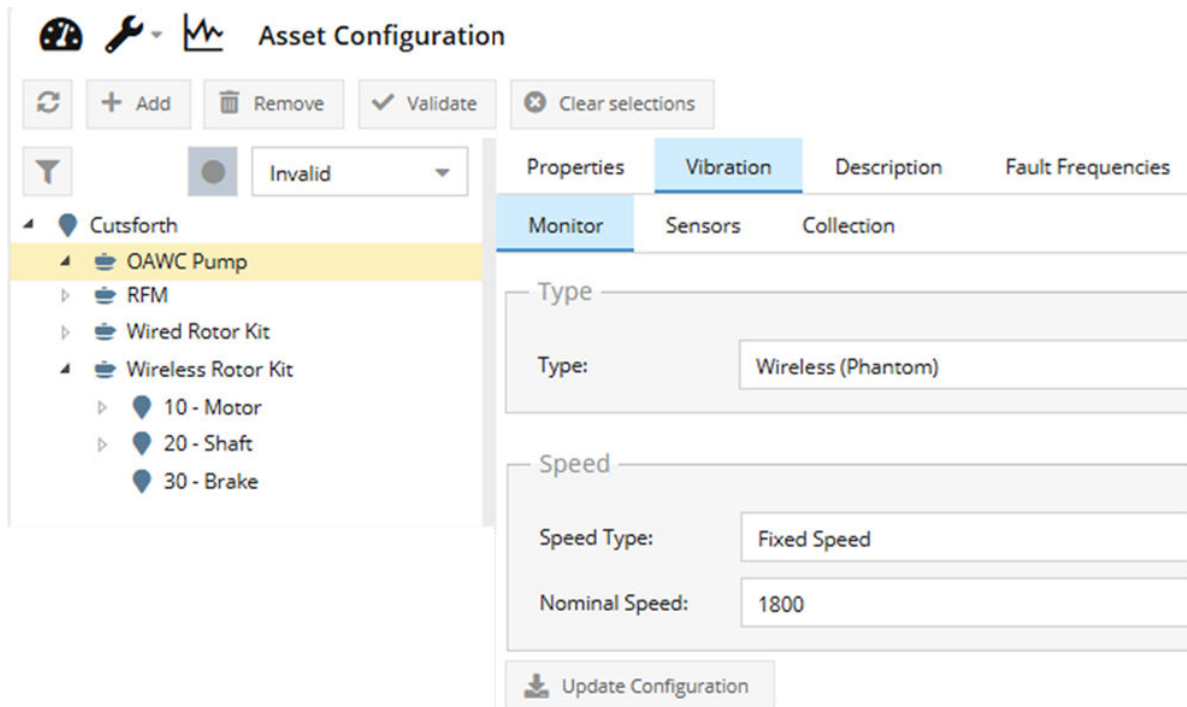

Figure 14. Update Configuration button on the Vibration>>Monitor tab
4. Press the Update Configuration button under the monitor tab (see Figure 14).